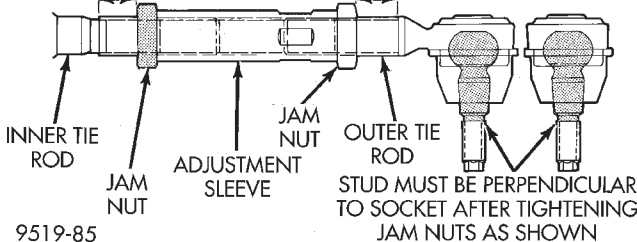

Fig. 8 Tie Rod Thread Engagement Requirements
CAUTION: When setting Toe on vehicle, the maximum dimension of exposed threads allowed on inner and outer tie rod can not exceed the distance shown in (Fig. 8). If the maximum distance is exceeded, inadequate retention of either inner or outer tie rod may result. Ensure that adjustment sleeve jam nuts are torqued to required specification when Toe setting procedure is completed.
(4) After completion of tie rod end installation and to Toe adjustment procedure, tighten inner tie rod adjusting sleeve jam nut (Fig. 8) to a torque of 75 N·m (55 ft. lbs.). When tightening jam nut, use a 27 mm crow foot and a clicker type torque wrench to obtain required torque. **To avoid losing Toe set adjustment and prevent adjusting sleeve from turning, a 23 mm wrench of sufficient size to resist the tightening torque of the jam nut must be used to hold adjusting sleeve.**
(5) Use an appropriate tool on neck area of outer tie rod to maintain the correct perpendicular orientation of the tie rod end stud within the tie rod end (Fig. 8).
(6) Tighten the outer tie rod jam nut (Fig. 8) to a torque of 75 N·m (55 ft. lbs.). When tightening jam nut, use a 27 mm crow foot and a clicker type torque wrench to obtain required torque. **To avoid losing Toe set adjustment and prevent adjusting sleeve from turning, a 23 mm wrench of sufficient size to resist the tightening torque of the jam nut must be used to hold adjusting sleeve.**